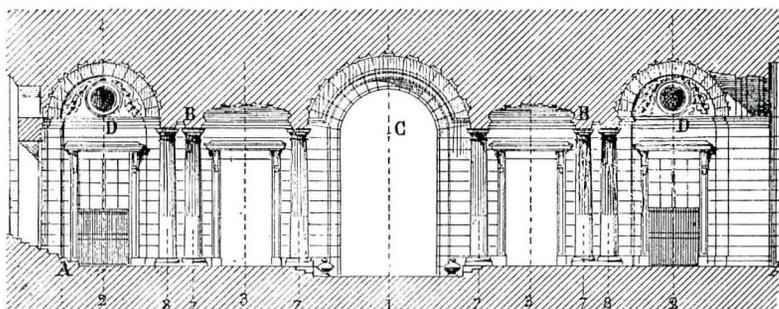

Figure 24. Transverse Section.
*Sketching and Rendering in Pencil. Figure 24.*